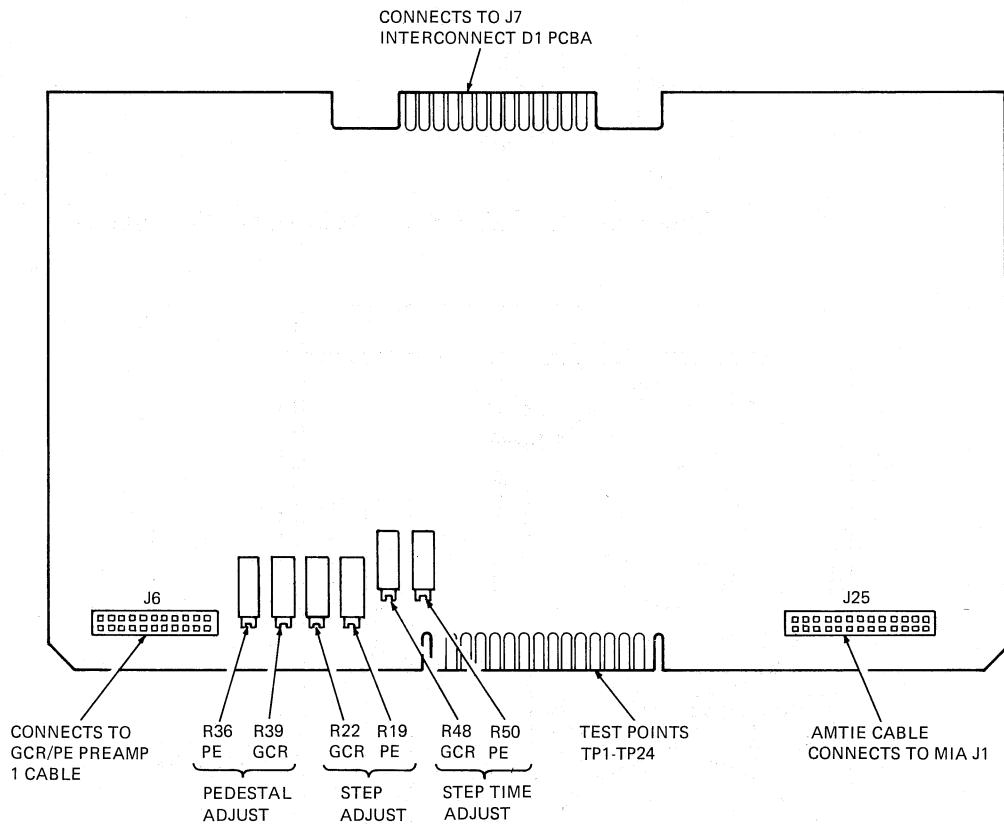

Figure 6-18 Write PCBA Test Points, Adjustments, and Connectors
1. Connect an oscilloscope to write PCBA (Figure 6-18) test point 6. Set the scope as follows.